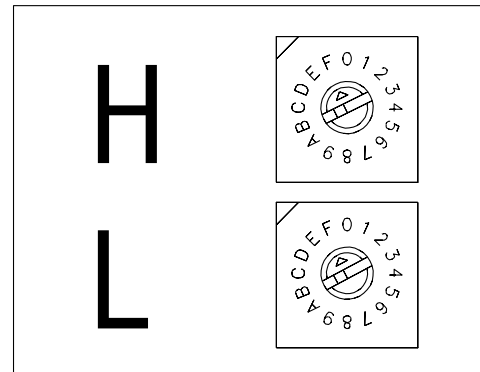

Figure 14: Address Switch Settings – Diagnostic Mode
4. Use a small flathead screwdriver to move both H and L address switches to the "F" position (**Figure 14**). This will set the scoreboard driver to Diagnostics Mode.